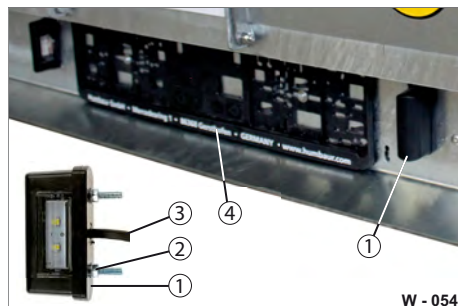

Fig. 65 License/number plate lighting
- ▶ Release the screw connections (Fig. 65/2).
- ▶ Disconnect the connection cable with plug connection (Fig. 65/3).
- ▶ Replace the complete LED light (Fig. 65/1).